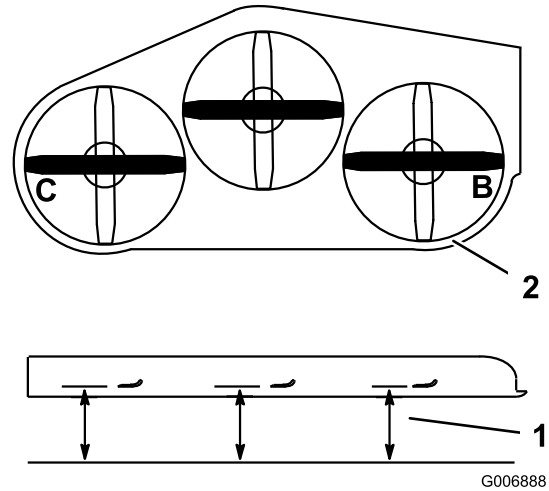

Figure 92
1. Position the **right** blade side-to-side (Figure 92).
2. Measure the right blade at the **B** location, from a level surface to the cutting edge of the blade tip (Figure 92).
4. Position the left blade side-to-side (Figure 92).
5. Measure the left blade at the **C** location (Figure 92), from a level surface to the cutting edge of the blade tip.